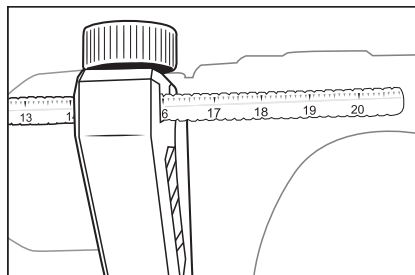

Fig. 1
- ◆ You can read the drilling depth from the scale on the depth stop **12**. To do this, subtract the value displayed on the right of the depth stop **12** (e.g. 16 cm) from the end of the scale (20 cm). The drilling depth is then 4 cm (see Fig. 1).